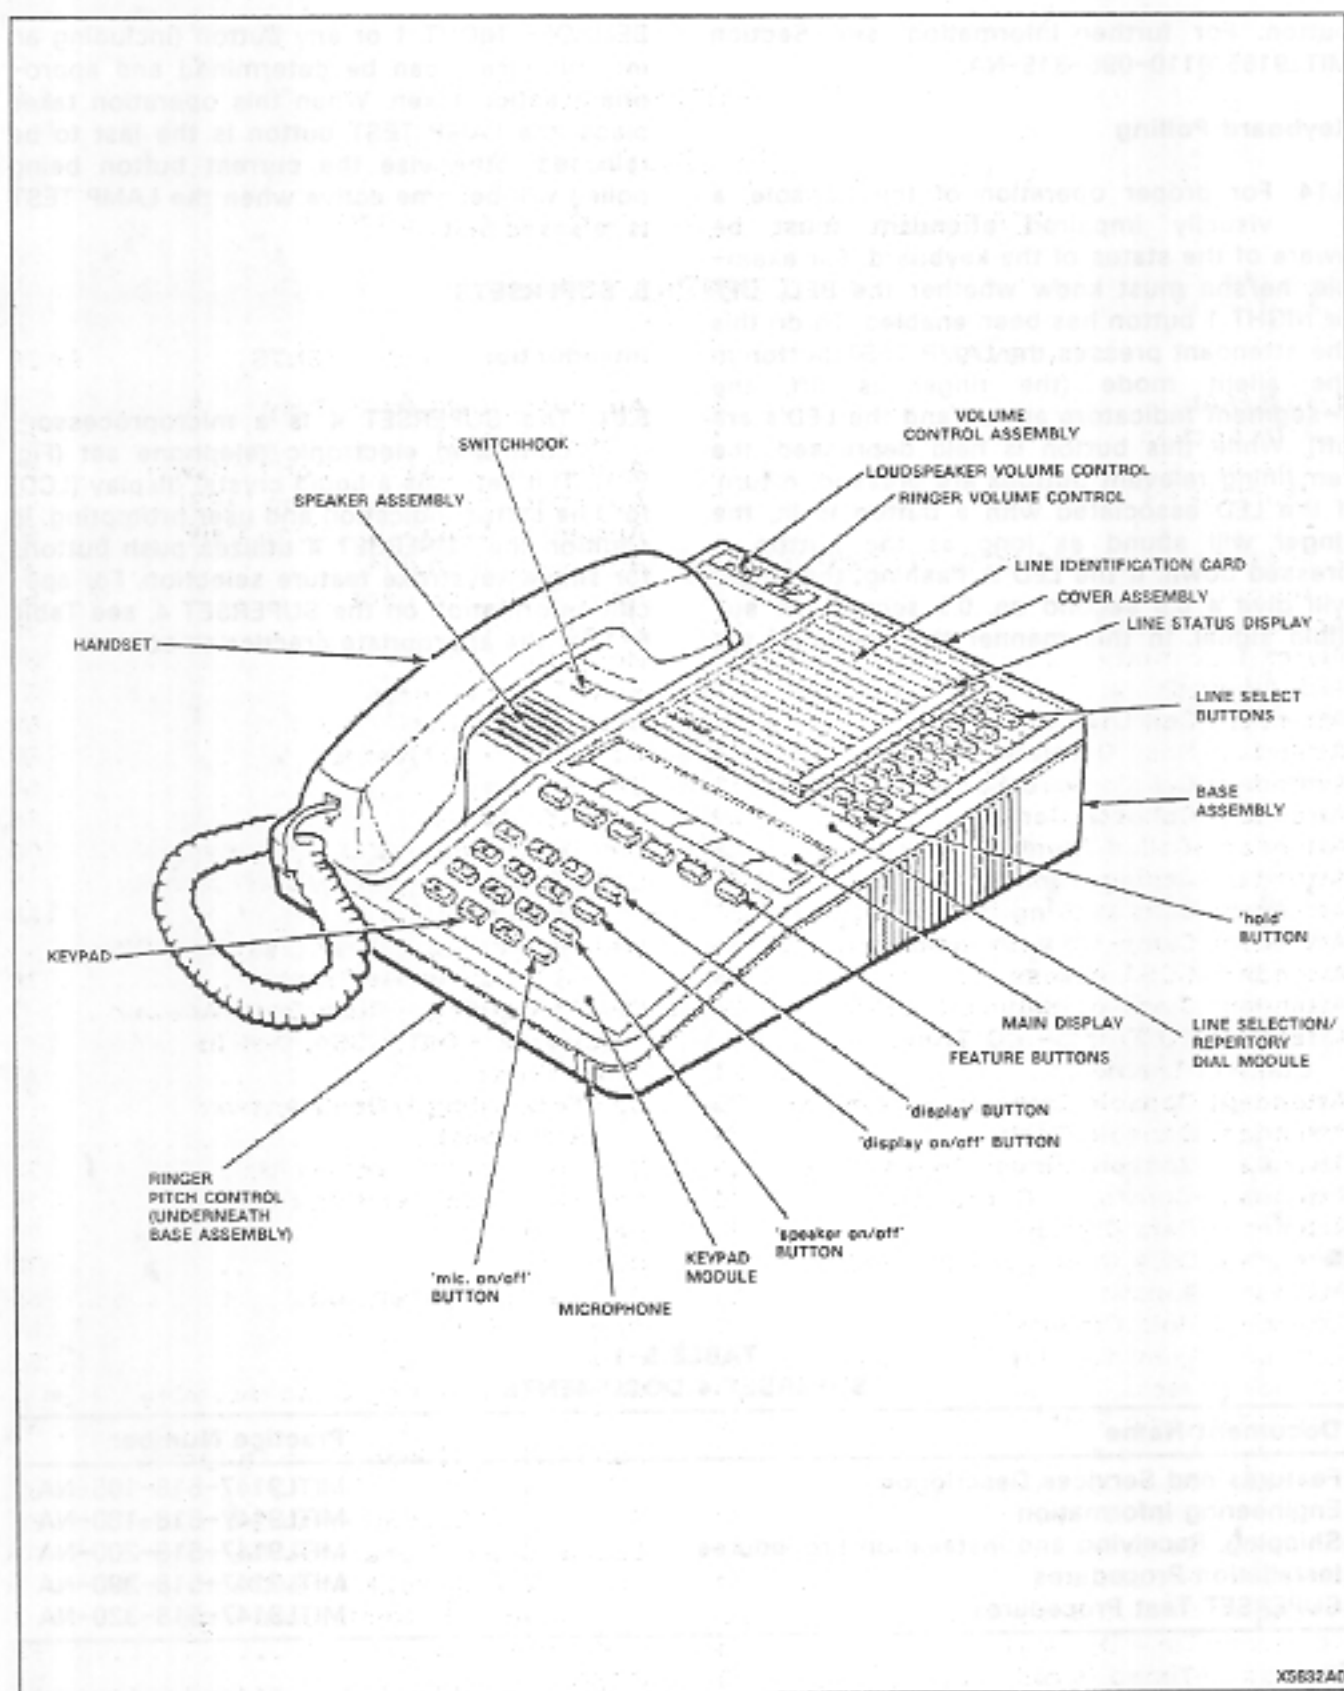

Figure 5-1 SUPERSET 4
5.01 The SUPERSET 4 is a microprocessor-controlled electronic telephone set (Fig. 5-1). The set uses a liquid crystal display (LCD) for line status indication and user prompting. In addition the SUPERSET 4 utilizes push buttons for single keystroke feature selection. For specific information on the SUPERSET 4, see Table 5-1 for the appropriate practice to consult.